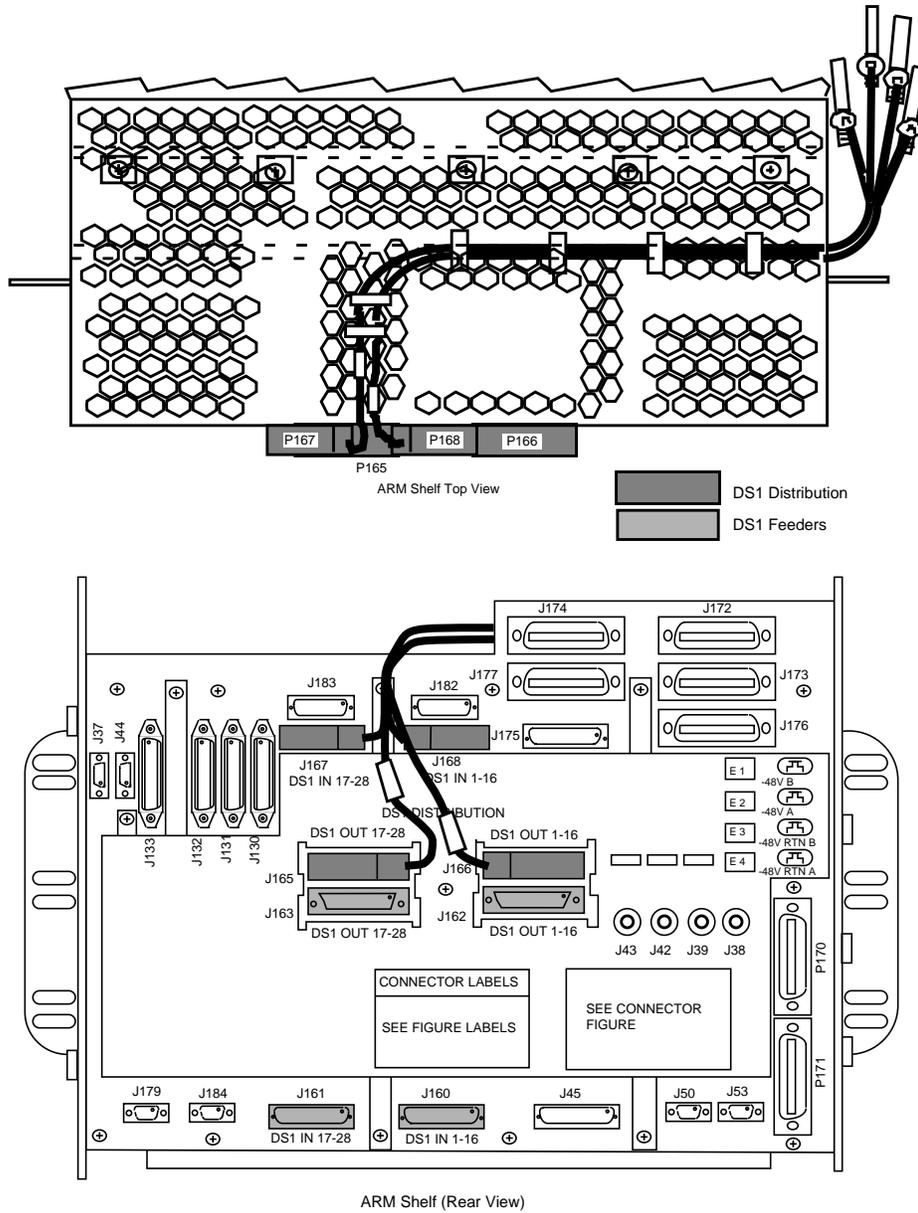

Figure 3-19. DS1 Distribution or Feeder Cable Kit Installation
- Step 3:* Route these two cable assemblies up over the top of the ARM shelf and then towards the right (as viewed from the rear of the shelf). The ferrite beads should not lay upon each other. Refer to Figure 3-19.
- Step 6:* Route these two cable assemblies up over the top of the ARM shelf, over the top of the first two cable assemblies and then towards the right (as viewed from the rear of the shelf). The ferrite beads should not lay upon each other. Refer to Figure 3-19.
- Step 7:* Secure all four cable assemblies together with cable ties using the top of the ARM shelf's tie points. Refer to Figure 3-19.